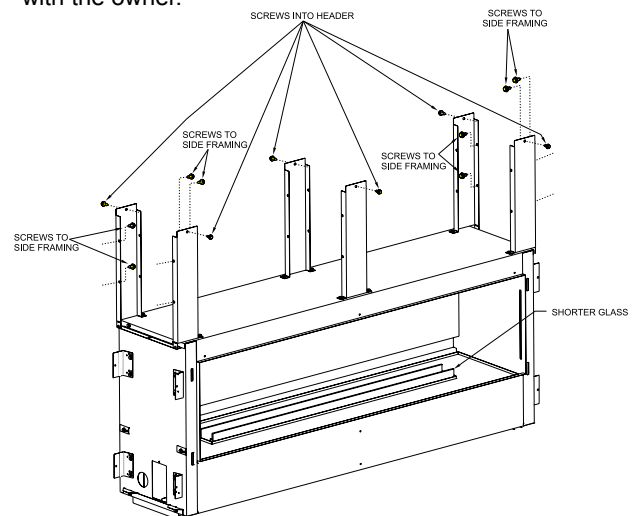

Figure 20
4. Secure six framing brackets with drywall screws to the framed opening above the fireplace as shown in **Figures 20 to 22**. Top brackets should be installed to support the ends of the non-combustible board. Note: The drywall screws are located in the instruction envelope packet. Secure the left and right standoffs to the side framing as shown in Figure 20. Secure the fireplace on the left and right through the framing brackets.
12. Retrieve shorter glass and install on both sides of burner. **See Figure 20**.